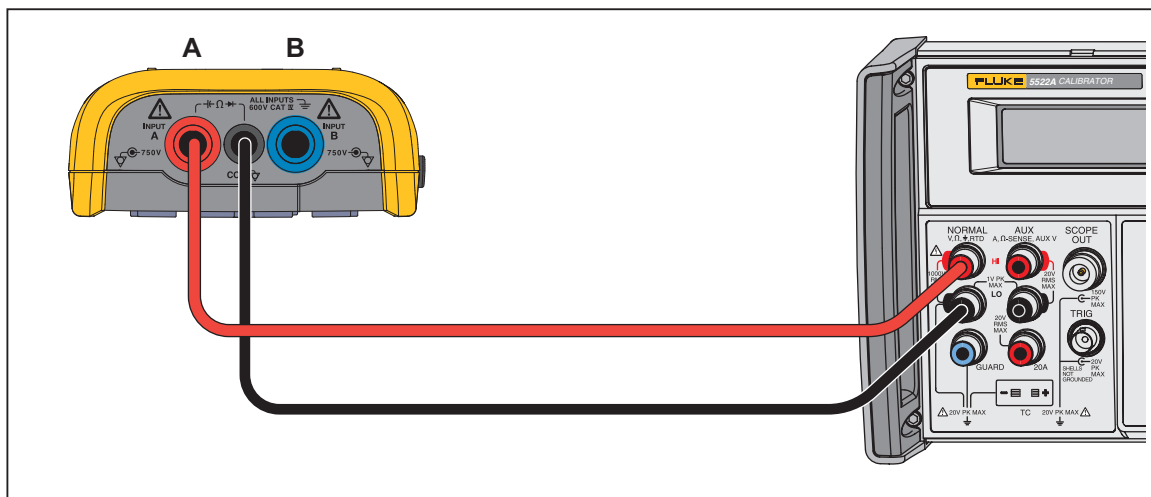

Figure 13. Capacitance Gain Calibration Input Connections
- Connect the Test Tool to the Calibrator as shown in Figure 13.
2. Connect the Test Tool to the Calibrator as shown in Figure 13.